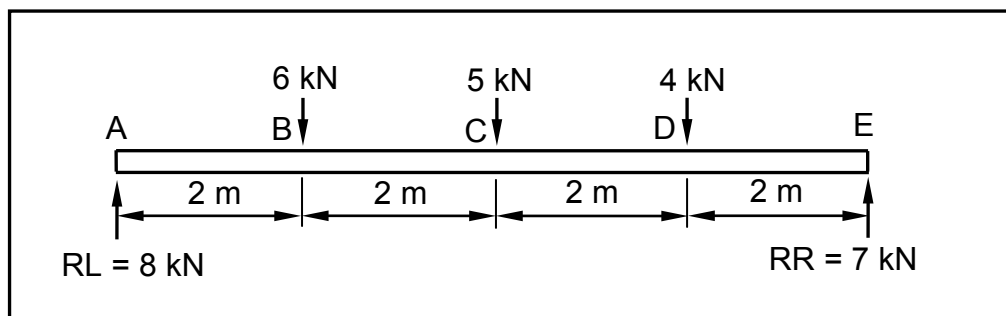

FIGURE 5.1
- 5.1 A beam with a length of 8 m is subjected to three point loads as shown in the space diagram in FIGURE 5.1 below.